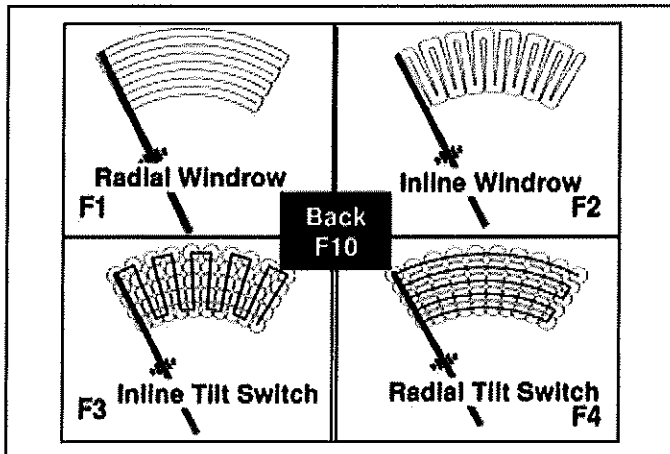

Figure 57
2. Select desired pile type on the main menu screen (Figure 57).